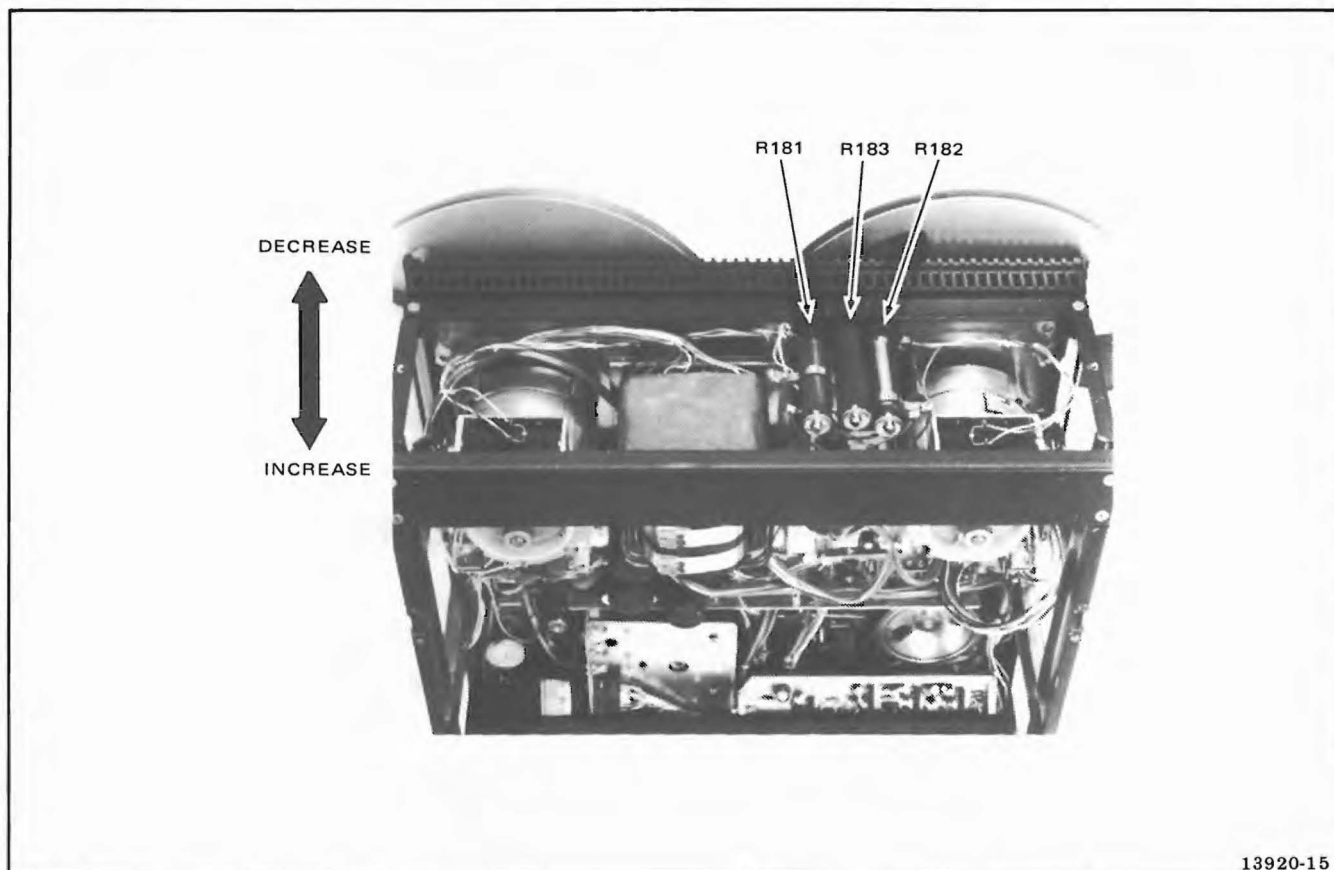

Figure 5-13. Tension Adjustment Resistors
- b. On the top of the machine, refer to Figure 5-13 and locate resistor R182. Loosen screw and adjust in direction indicated in Figure 5-13 to increase or decrease tension.
- b. On the top of the machine, refer to Figure 5-13 and locate resistor R181. Loosen screw and adjust R181 in direction indicated to increase or decrease tension as necessary. Tighten screw.